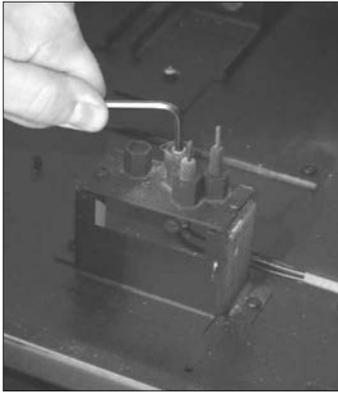

Figure 53: Removing the Pilot Orifice.
6. Insert a $\frac{3}{32}$ " or 4mm Allen wrench into the top of the pilot orifice. Remove it by rotating it counter-clock wise until it is free of the pilot assembly (Figure 53).